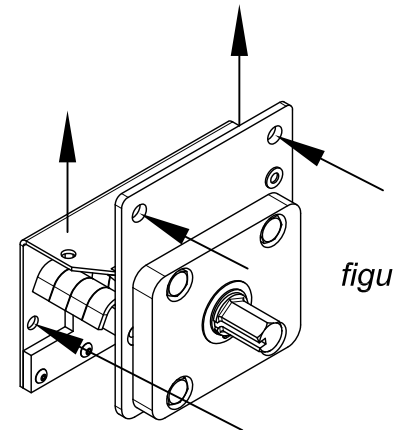

figure 17
After marking the pivot point, hold the spring housing under the body so the top of the housing is against the bottom of the top rail, and the front plate is on the outside of the top rail, centered at the pivot point. Using two (2) 3/8" x 1-1/2" thread-cutting screws, fasten the bracket to the top rail. Using an additional four (4) 3/8" x 1-1/2" thread-cutting screws, secure the bracket to the bottom of the top rail, and to the body, as indicated by the arrows in *figure 17*.